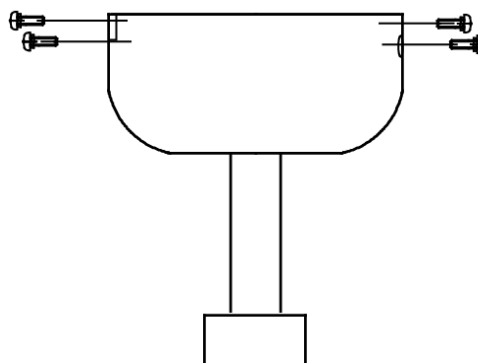

Fig. 7
- Loosen the 2 screws from the mounting bracket. Fig. 7